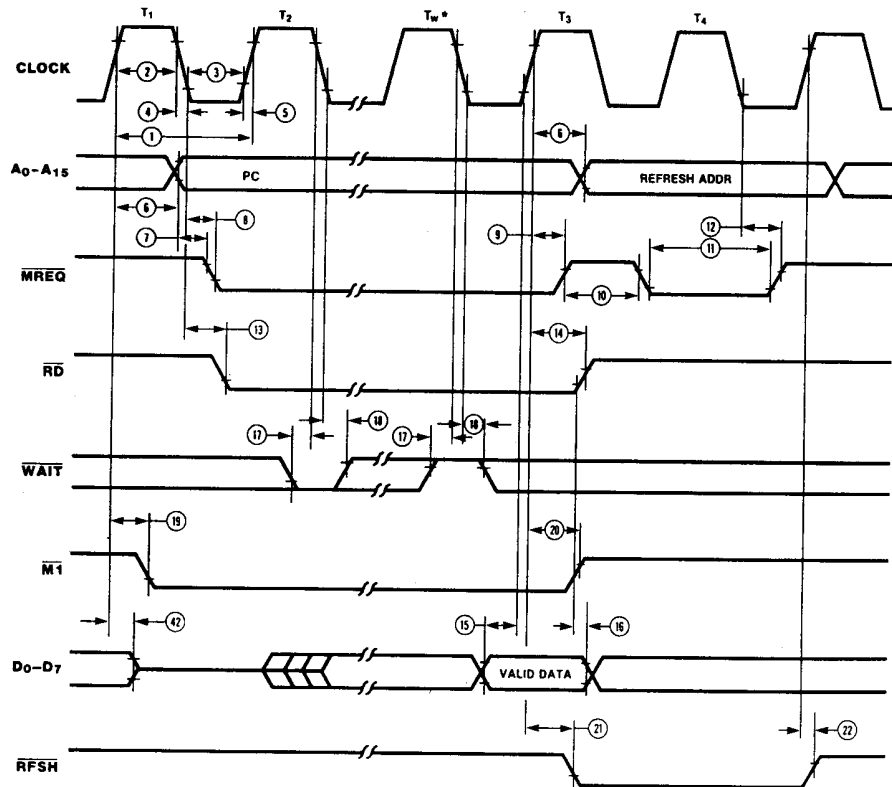

Figure 5. Instruction Opcode Fetch
**Instruction Opcode Fetch.** The CPU places the contents of the Program Counter (PC) on the address bus at the start of the cycle (Figure 5). Approximately one-half clock cycle later, MREQ goes active. When active, RD indicates that the memory data can be enabled onto the CPU data bus.